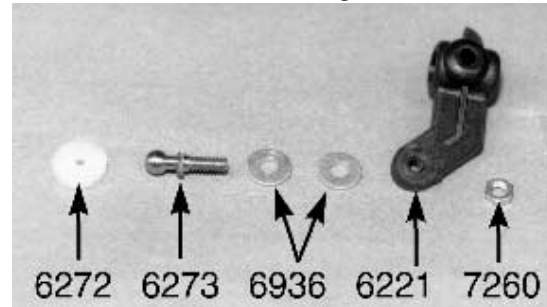

Fig. 3
□ **Figs. 3 & 4** (1) Go to bag #7-1 again and remove the two #6221 nylon steering blocks. At this point there is no right hand. or left hand block. (2) From bag #6-14 remove two of the #6273 long steel ball ends, two #6272 ball end dust covers, two #7260 4-40 small pattern thin plain nuts, and four #6936 #4 aluminum flat washers. (3) Place two washers onto each ball thread and then screw one ball end into each steering block as shown and then thread on the plain nut from the back side. (4) Take two more of the #6272 dust covers and install them over the two balls. Make sure the balls are mounted on opposite sides of the steering blocks so that they both will be on top of the steering blocks when mounted on the car. Once you have installed the ball ends on the steering blocks there will then be a right and left steering block.